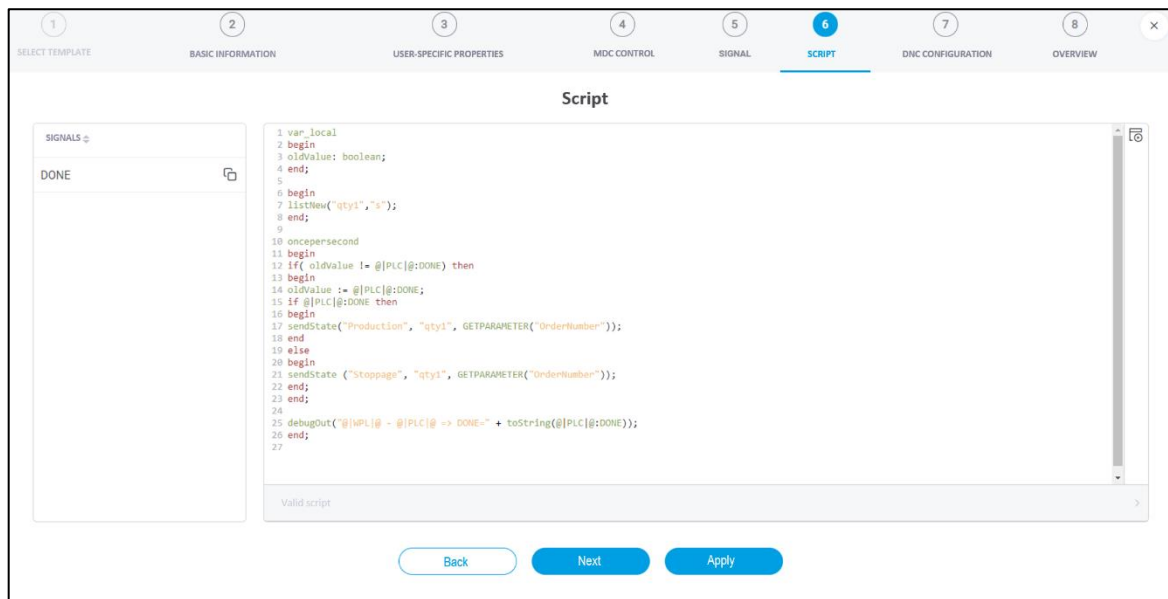

Fig. 20: Add machine - Script
In order to follow the example from the "DONE" signal in step ⑤, the script in Fig. 20 is as follows: If bit 1 for "DONE" comes from the machine, an event **sendStateProduction** is sent, thus eventually corresponding to the status **Production**. If no bit flag is set to 1, **sendStateStoppage** is sent, thus **stoppage**. More script examples are available in section 8.6.